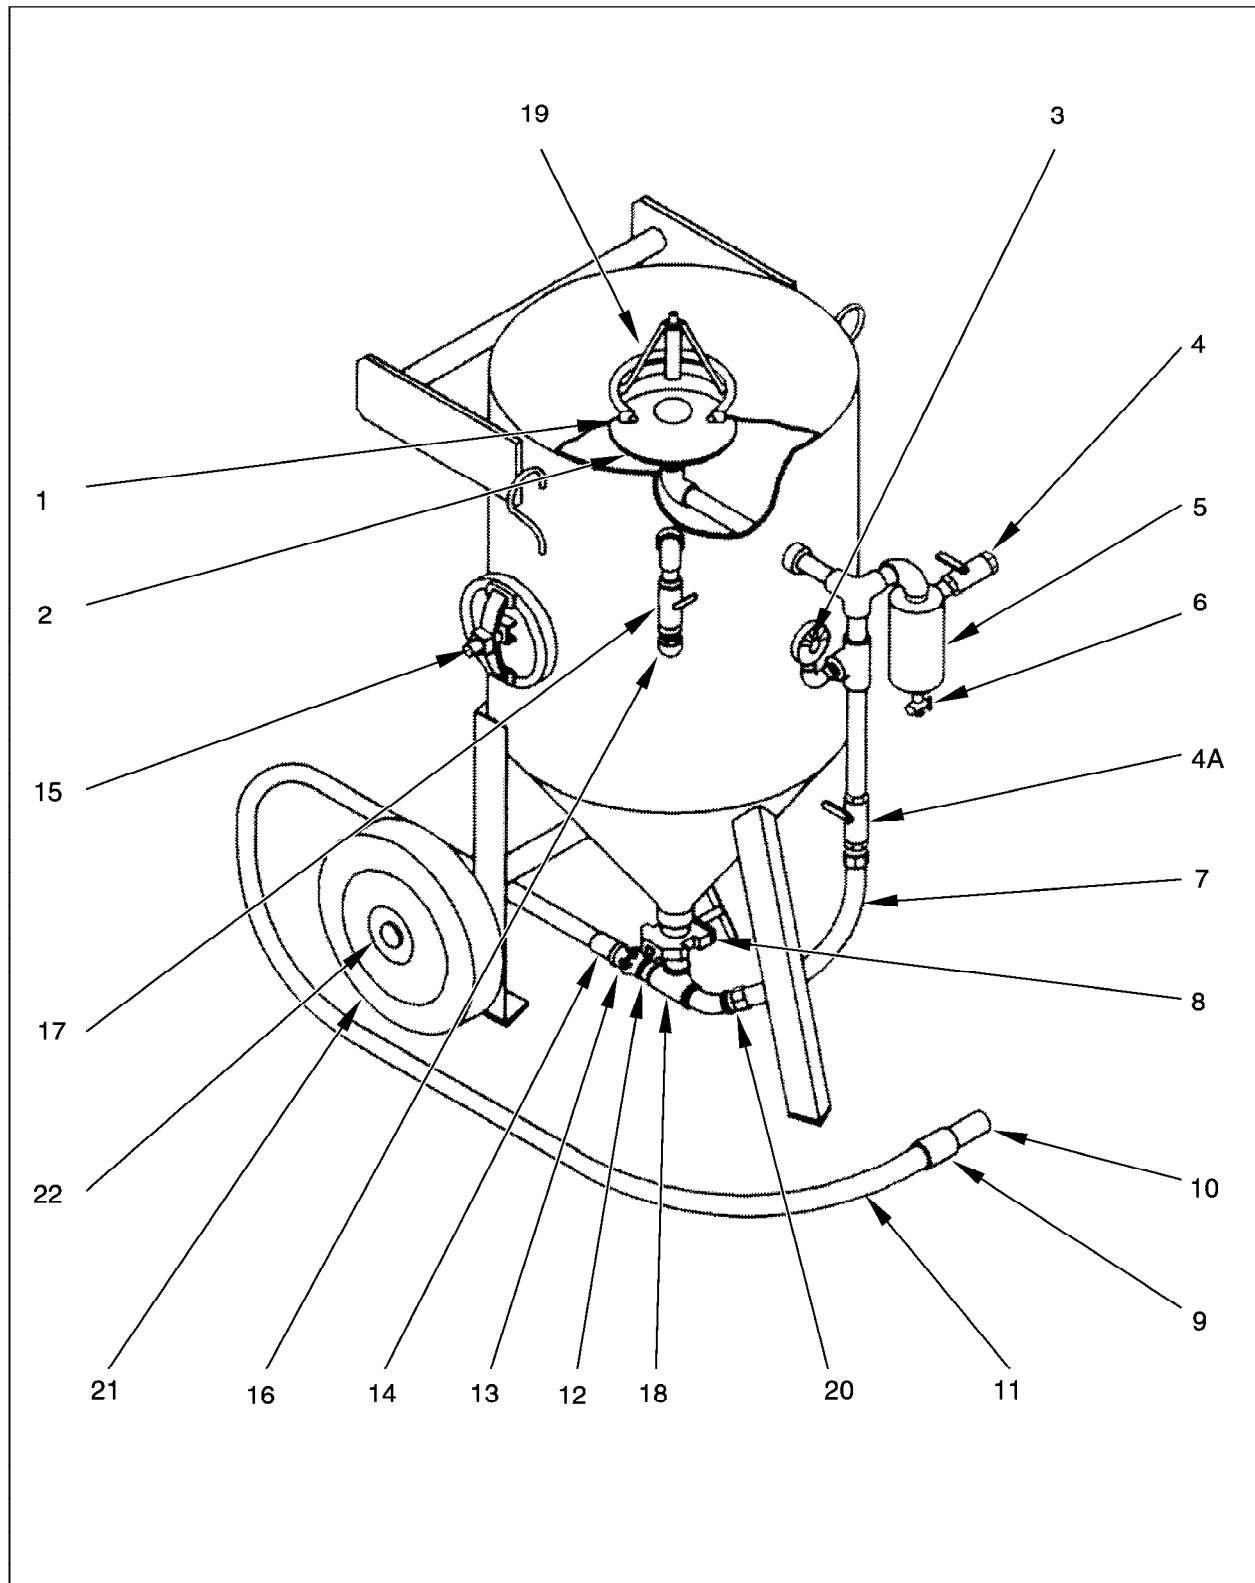

Figure 2-1 *SuperBlast* System Equipped with Manual Controls
The ***SuperBlast*** system with manual controls is illustrated in *Figure 2-1* and the parts list is provided in *Table 2-1*. Reference numbers in *Figure 2-1* correspond to the numbered items in *Table 2-1*.
Refer to Figure 2-1. Use the following procedure to set up the *SuperBlast* system with manual controls:
2	Locate the air pressure gauge (3) in a box taped to the pipe string support bracket. Install the 1/4" gauge in the connection elbow, as illustrated in Figure 2-1.
1	Close main air valve (4). (In the closed position, the handle is perpendicular to the pipe, as illustrated in Figure 2-1.) Pressurize the air line from the compressor to the pressure vessel.